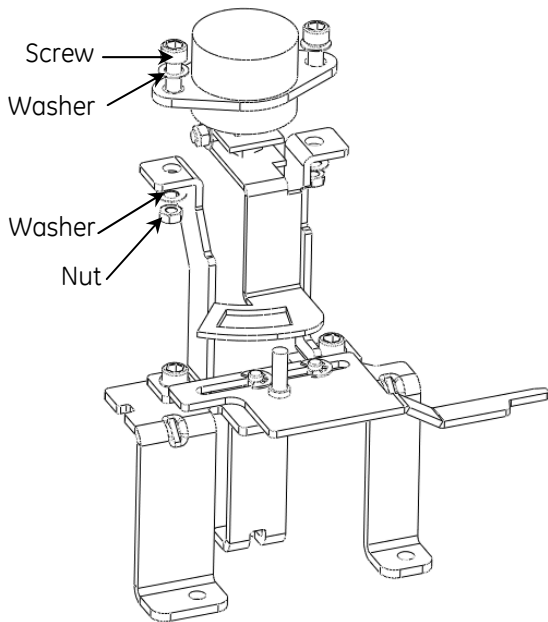

Fig 3.
5. Fix the Lock assy on the mounting Braket as shown in fig 3.